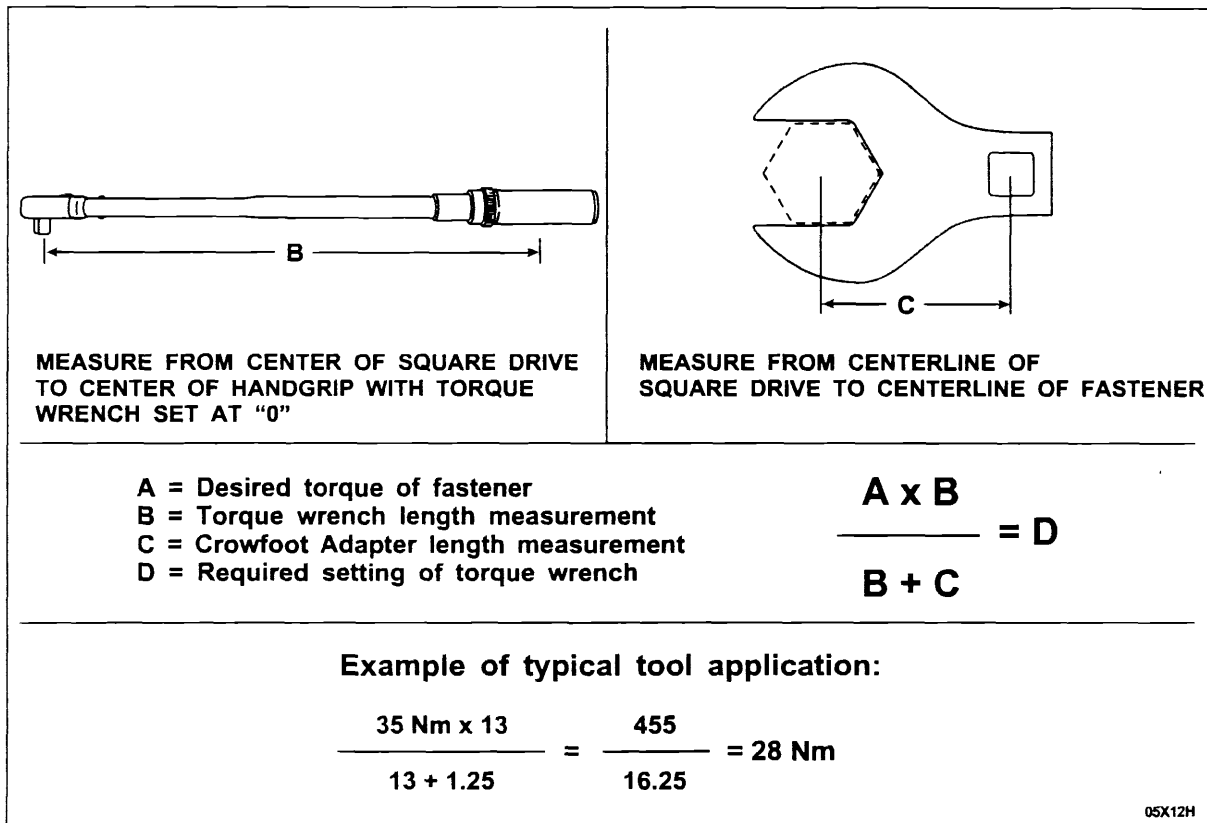

FIGURE 8
7. **CAUTION:** When tightening the power steering hose connections, a crowfoot adapter must be used on a torque wrench. This increases the length of the tool and changes the actual torque value. To achieve the proper torque on the fasteners, you must use the formula provided in this document to calculate the proper setting for the torque wrench/crowfoot you are using. See Figure 8.